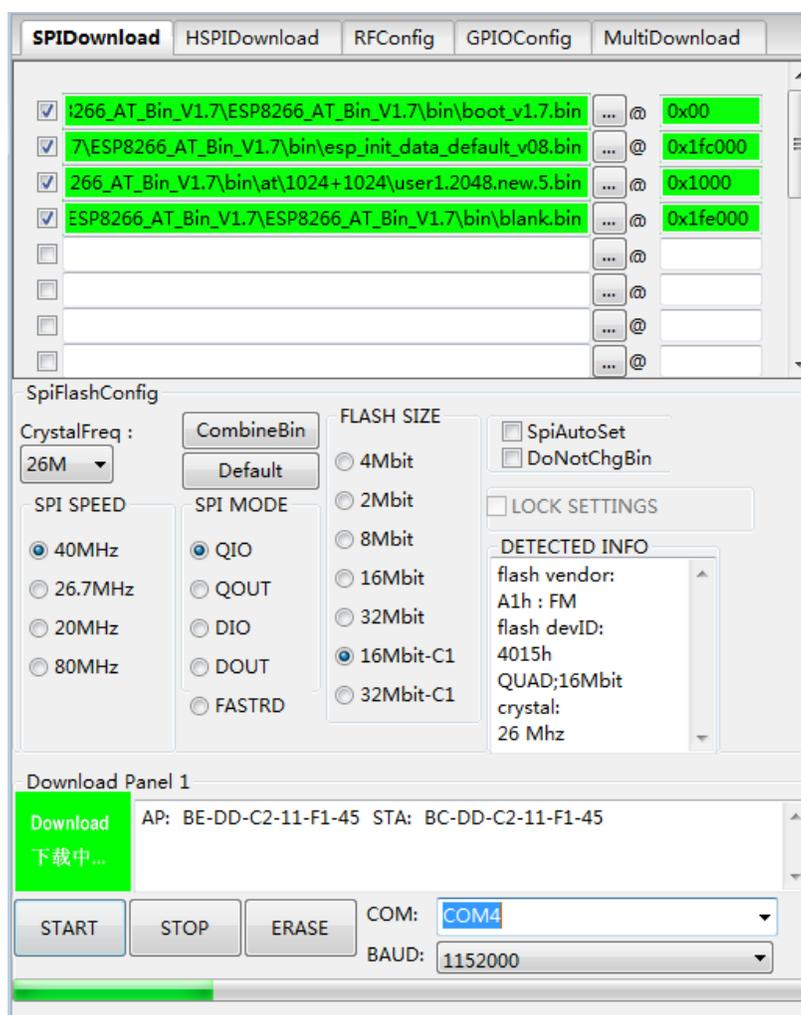

Figure 4-9. Downloading
9. While downloading, the tool reads the flash information and MAC address of the product, as shown in Figure 4-9.